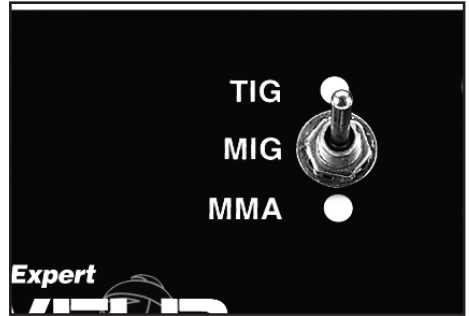

FIG.13
9.1 WELDING TYPE SELECTION- SWITCH - FIG.13